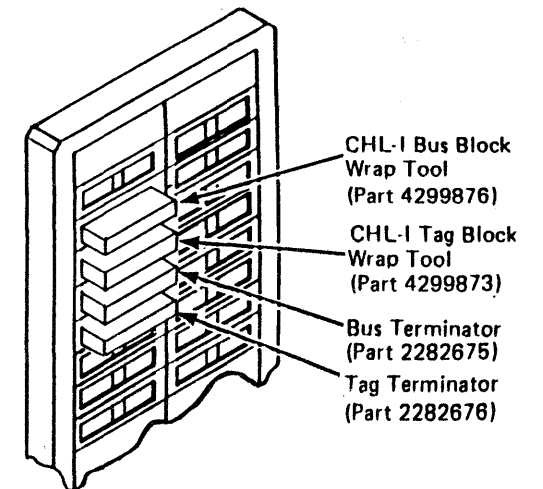

Figure 3. CHL-I Tailgate Wrap Connection Shown for SD1, Channel A
1. Connect the block wrap tool, as shown in Figure 3. See INST 100 for connector locations.